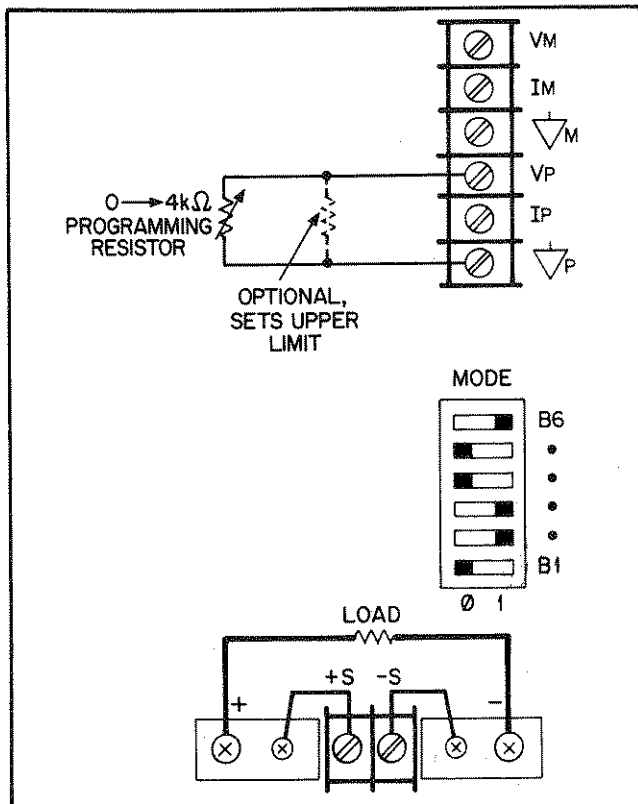

Figure 3-8. Resistance Programming of Output Voltage
3-55 Figure 3-8 shows the rear-panel MODE switch settings
*If the connection of a programming resistor to a programming terminal opens during resistance programming, the output of the unit goes to about 24 Vdc or 35 Adc depending on whether CV or CC programming is interrupted. OVP shutdown prevents operation at 24 Vdc, and operation with 35 Adc of output current does not damage the unit but it may damage the load. Protect against OVP shutdown when switching CV programming resistors, and protect the load against over current when switching CC programming resistors by connecting a parallel, upper-limit programming resistor directly to the programming terminals as shown in Figures 3-8 and 3-9. (The resistance value programming the output is the parallel combination.)*